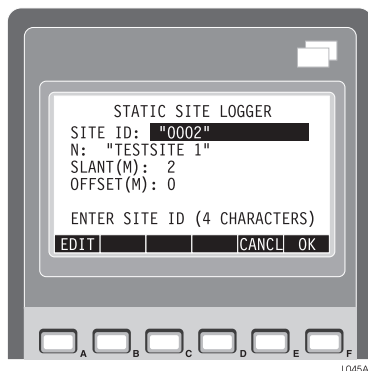

Figure 3.31: Static Site Logger Screen
2. For a Static survey, press the **K (STATIC SITE LOGGER)** key to display the Static Site Logger screen (Figure 3.31), and then press the **A (EDIT)** key to enable the Edit Mode.
1. From the Static Site Logger screen (Figure 3.31), press the **A (EDIT)** key. An editable field appears in the lower left corner of the display. The editable field consists of quotation marks enclosing space for four characters. Note that the blinking cursor occupies the same space as the left quote.